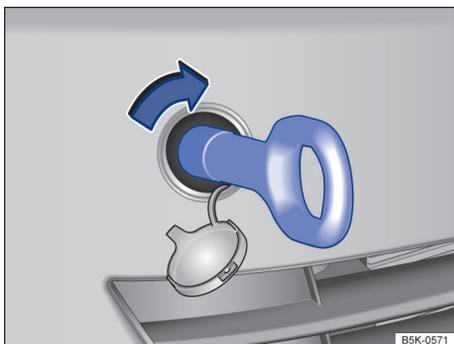

Fig. 165 In the right front bumper: Installing the towing eye.
There is a threaded hole for the towing eye in the right front bumper behind a cover → fig. 165.
- Screw the towing eye **clockwise** into the threaded hole as far as it will go (arrow) → fig. 165, → !. Use the lug wrench to turn and tighten the towing eye.